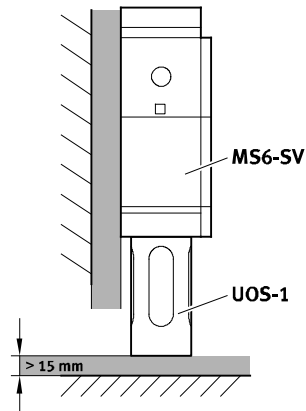

Fig. 5 Installation
- Observe minimum distance of 15 mm below the pneumatic silencer (→ Fig. 5).